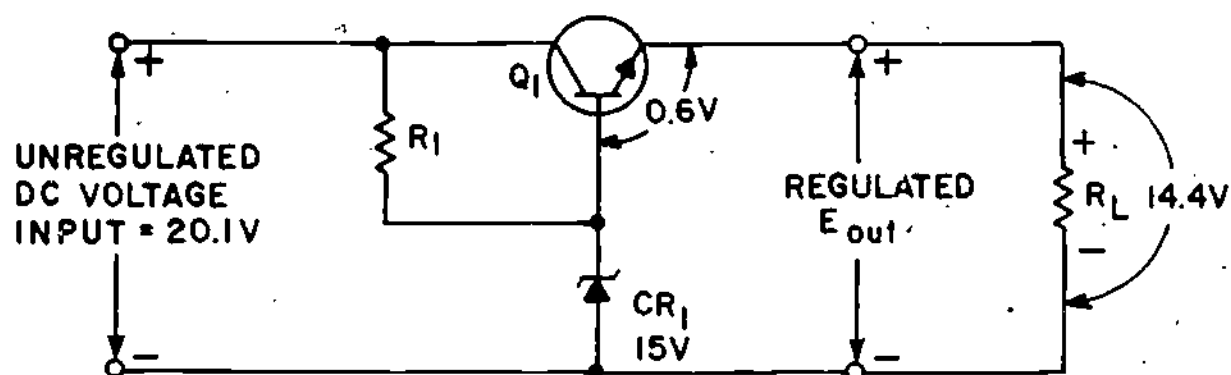

FIGURE 7
15. Study Figure 7 in order to understand what happens when the input voltage exceeds 20 volts.